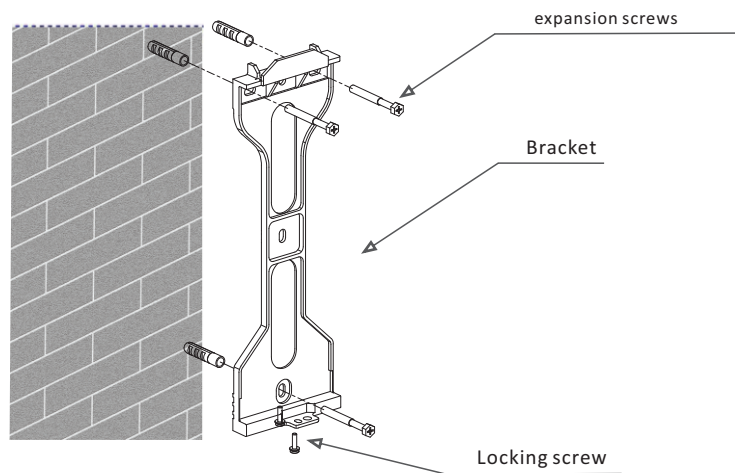
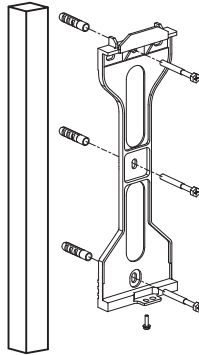

Figure 4.4 Inverter Wall Mounting
Figure 4.5 Inverter Pillar Mounting
Please see Figure 4.4 and Figure 4.5 for instruction on mounting the inverter to a wall. The inverter shall be mounted vertically. The steps to mount the inverter are listed below:
- 1.Ensure the bracket is vertical and the mounting holes (in Figure 4.4 and Figure 4.5) are marked correctly. Drill the holes into the wall or pillar as marked.
- 2.Use the expansion screws marked in figure 4.4 to fix the bracket to the wall.